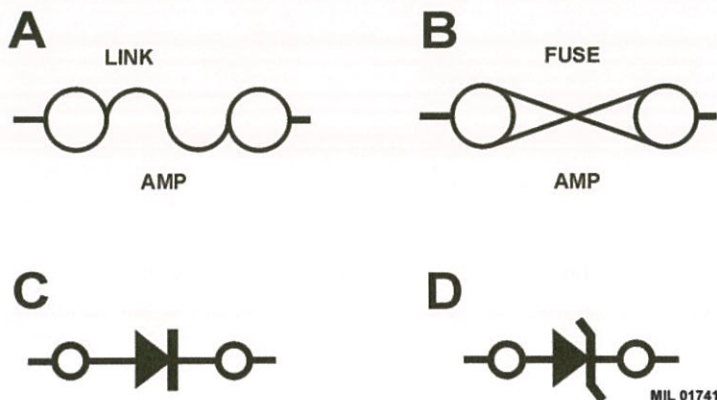

Fig 9 Fuses and diodes
15 Fusible links (refer to Fig 9 (A)) and current fuses (B), are identified as shown. The direction of the arrow in a diode symbol (C) indicates the direction of flow. The Zener diode (D) prevents current flow until a precise voltage is reached.